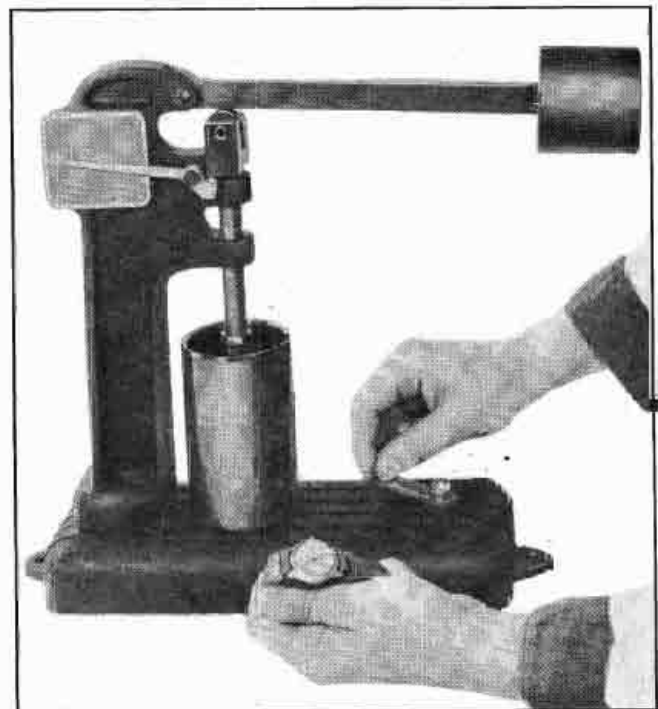

Fig. 6-28 Testing Leak-Down Rate
After all lifters have been assembled, the leakdown rate must be checked before they are installed in the engine. Valve lifter leakdown tester J-5790 (Fig. 6-28) is designed to test leakdown rate of lifters to determine whether or not they are within specified
5. Raise weight arm to allow plunger spring to expand fully; lower arm onto ram and commence turning crank slowly (1 revolution every 2 seconds). Time indicator travel from lower line (first line above set line) to line marked .125 or $\frac{1}{8}$ ", while still rotating cup with crank (Fig. 6-28). Lifter is satisfactory if rate is between 12 and 60 seconds.